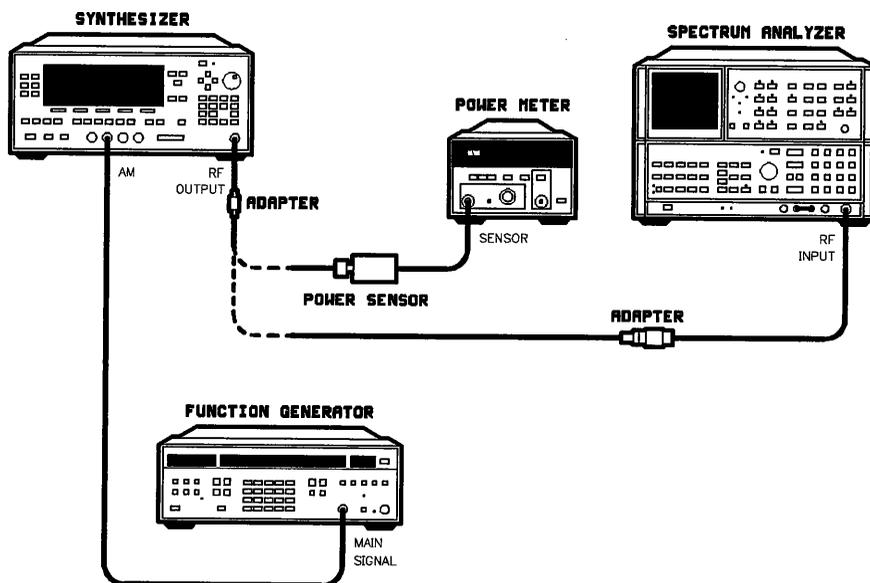

Figure 2-27. AM Dynamic Range Test Setup
1. Preset the instruments shown in Figure 2-27 and let them warm up for at least one hour.
4. Connect the equipment as shown in Figure 2-27 with the power sensor connected to the synthesizer's RF OUTPUT.
- Disconnect the power sensor from the synthesizer and connect the spectrum analyzer as shown in Figure 2-27.